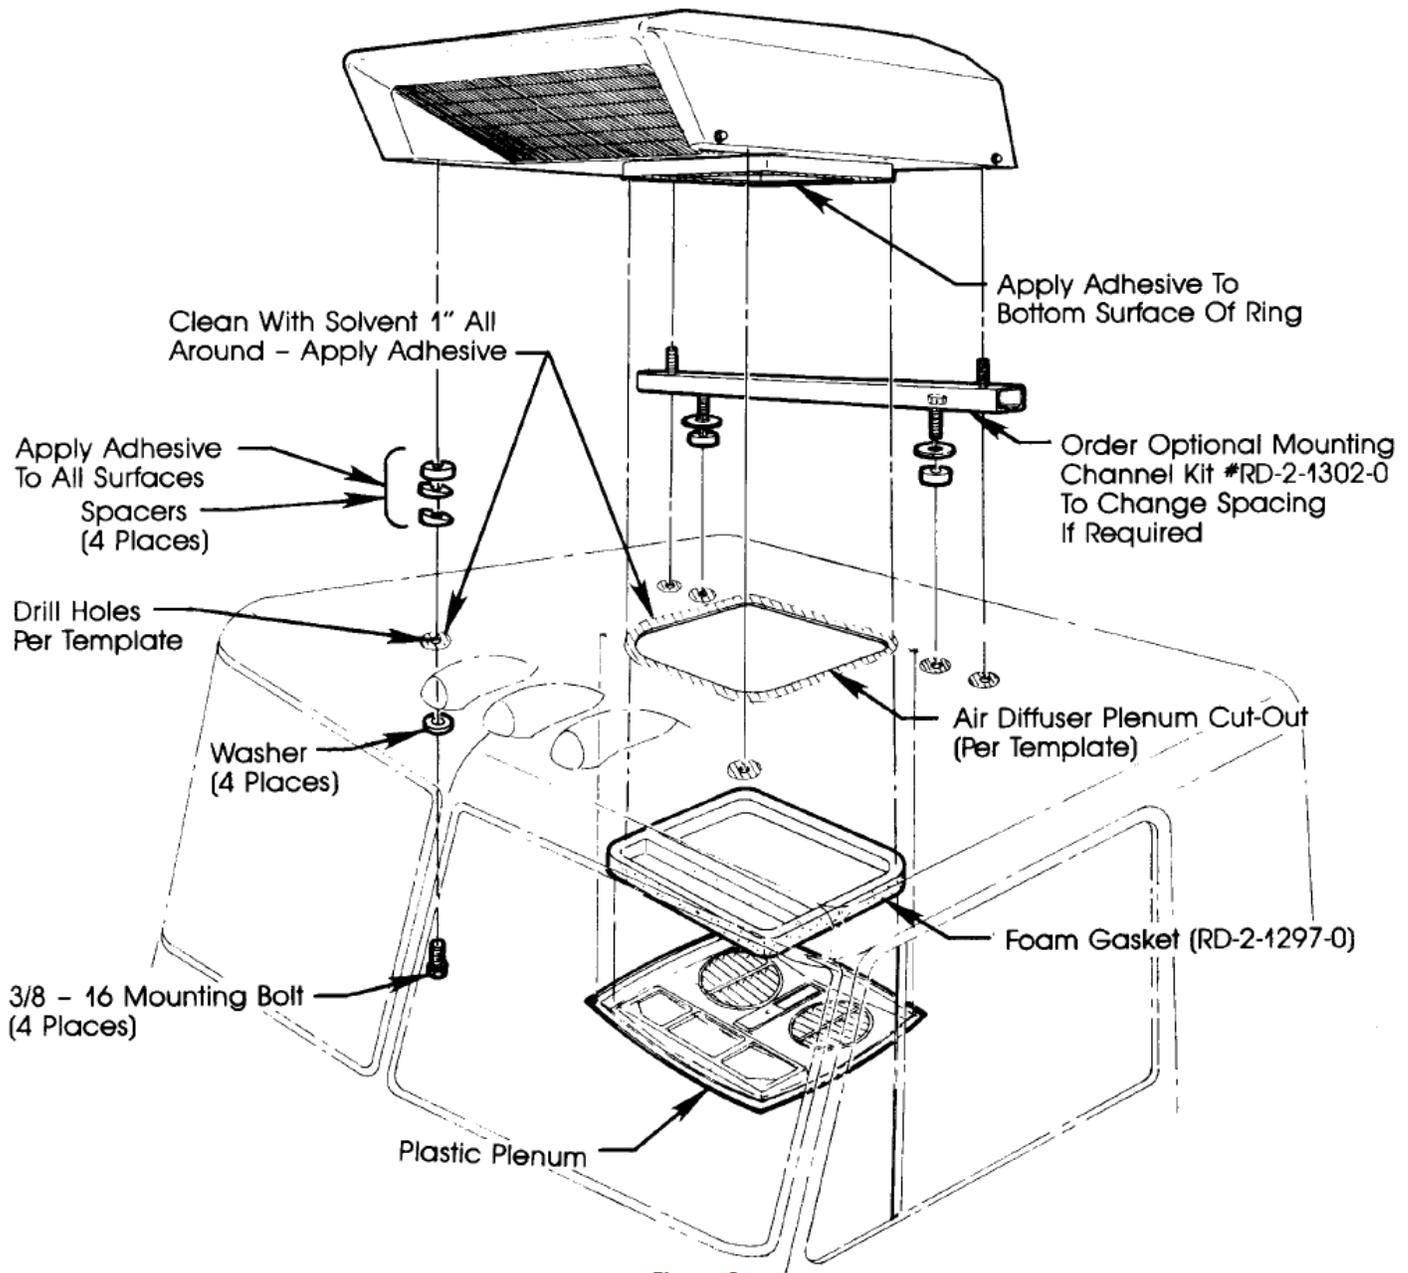

Figure 1
- g. A Mounting Channel Kit No. RD-2-1302-0 is available if it is necessary to reduce the bolt spacing width. The minimum recommended spacing width is 14 inches to ensure proper support. The channels bolt directly to the unit and either one large or two tapered rubber spacers are used to space the unit away from the roof. See Figures 1 and 2.
8. Apply a thin film of adhesive 1" wide around upper surface of roof cut-out and mounting holes. Apply sealer to the face of the sealing ring on the unit. See Figure 1. Make sure that the drain tube is located within the sealing ring. A wire or string may be wrapped around sealing ring to keep it in place if necessary.